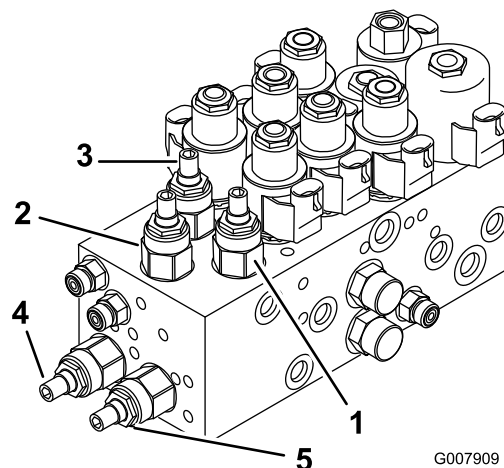
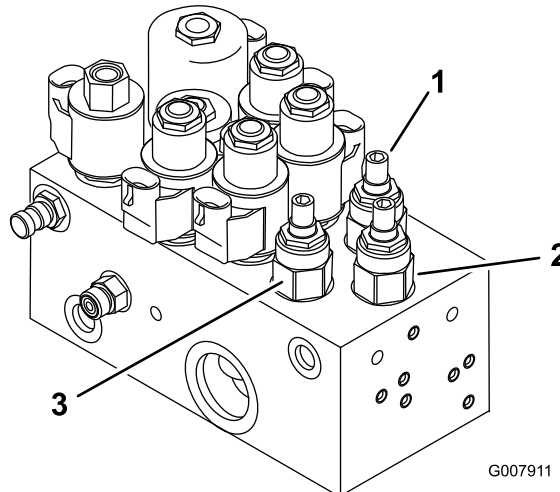

Figure 87
Figure 88
1. Locate the valves, on the lift manifold, for adjusting the desired cutting unit(s) (See chart and Figure 87 and Figure 88).